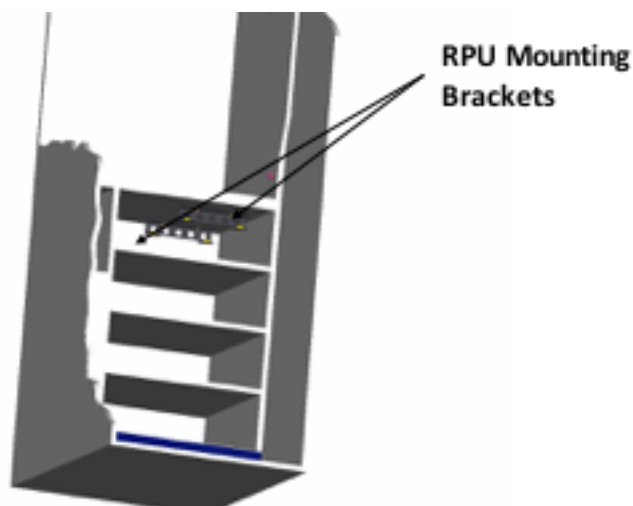

FIGURE 7 - RPU 4 PROVISIONAL POSITION IN THE FORWARD VCC TOP DRAWER (DRAWERS SHOWN REMOVED FOR CLARITY)
- » The provisions to mount RPU 4 will be located on the fixed top inside surface of the top drawer cavity of the VCC located in the forward galley. The modification will require potted inserts to be installed into the top inside surface of the top drawer cavity to install the mounting brackets for (1) RPU (see Figure 7).